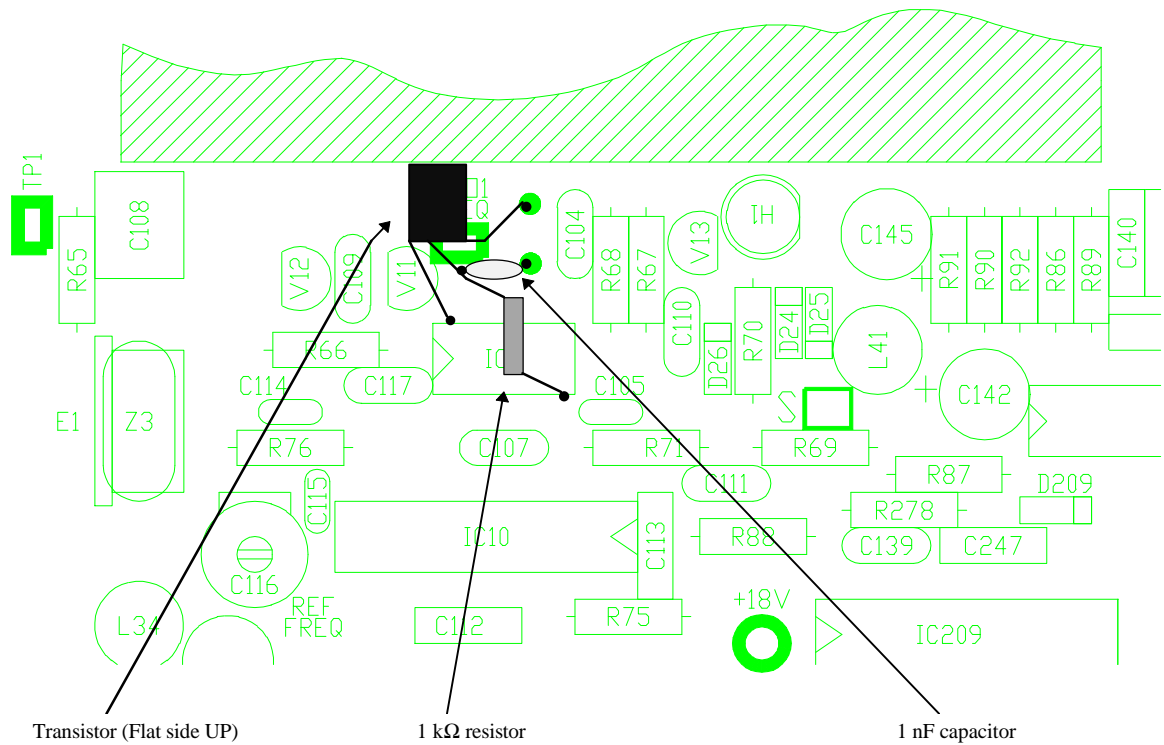

Figure 2 Diagram of modification
- ❑ Trim and solder one lead of the 1 k Ω resistor to IC9 pin 4. Refer to Figure 2.